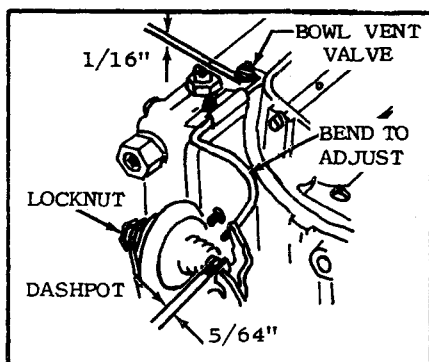

FIG. 3
3. **Bowl Vent Adjustment:** WITH THROTTLE VALVE FULLY CLOSED, DISTANCE BETWEEN TOP OF FUEL BOWL AND VENT BUTTON SHOULD BE $1/16"$. TO ADJUST, BEND VENT ARM AT ACCELERATING PUMP LEVER. CAUTION: FORD AND MERCURY NO ADJUSTMENT REQUIRED. (SEE FIG. 3).
7. **Dashpot Adjustment:** THIS ADJUSTMENT IS MADE WITH CARBURETOR SET AT PROPER IDLE SPEED. DEPRESS DASHPOT PLUNGER FULLY. THE DISTANCE BETWEEN THE PLUNGER AND THROTTLE LEVER SHOULD BE $5/64"$. TO ADJUST, LOOSEN LOCKNUT AND ROTATE DASHPOT ASSEMBLY. RETIGHTEN LOCKNUT. (SEE FIG. 3).